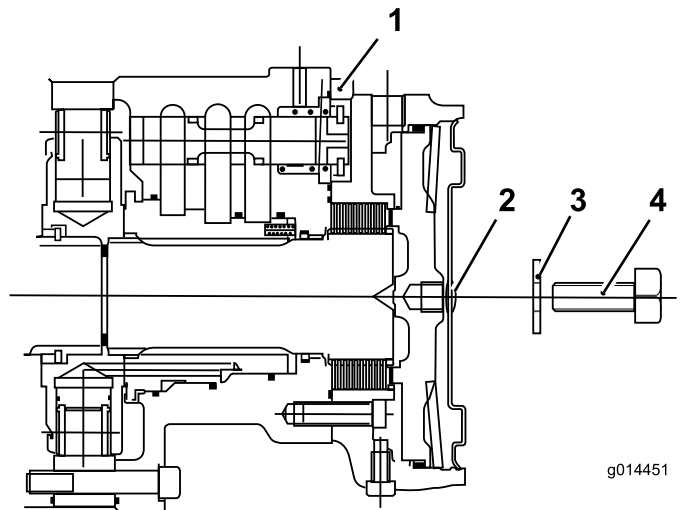

Figure 39
1. Remove the bolt 12 x 40 mm and washer 12 mm from the hole at the center of the motor end plate (Figure 39).